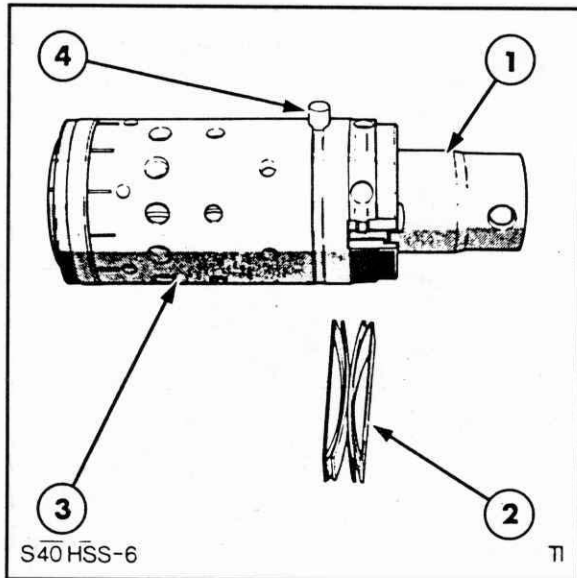

Figure 7-36
3. Position the two flat leaf springs in the slot. Install the curved springs between the flat springs, Figure 7-36. Compress the extended ends of the spring and slide the springs fully into the valve sleeves. Be sure that the springs are centralized.
2. Install the drive pin into the hole in the valve assembly, Figure 7-36, and press into position.